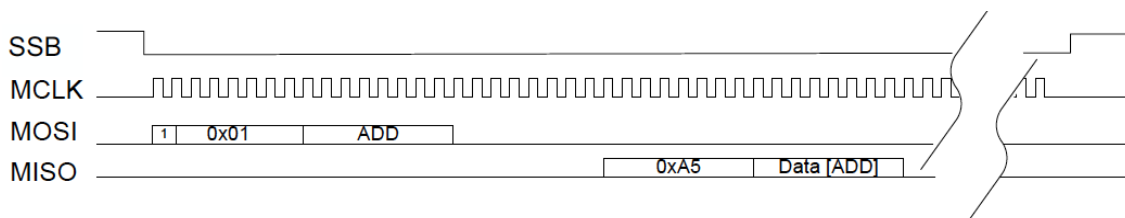
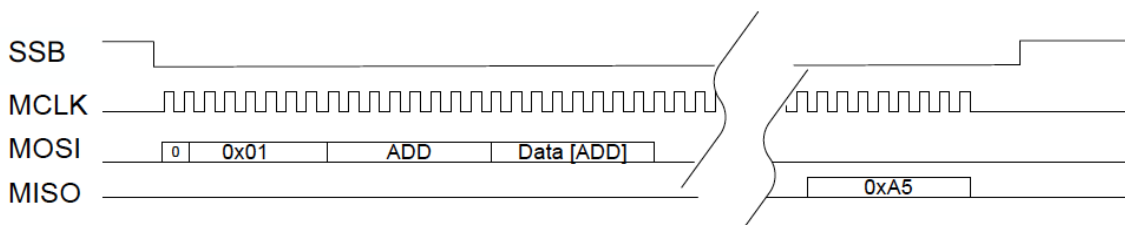

Figure 8: SPI Communication for EEPROM Read Access Timing Diagram
Figure 9: SPI Communication for EEPROM Write Access Timing Diagram
The internal 256 x 8bit EEPROM is a non-volatile memory which holds initialization and calibration data as well as gain dependent settings and the definition of internal measurement sequences. To change the address space from register to EEPROM access, the last bit of the first byte has to be set to '1'. Furthermore, the command word again includes the direction control bit 0 for read and '1' for write access. However, the read and write EEPROM access is somewhat different from the register access detailed before, since read/write operations return a special key (0xA5) via MISO (Figure 8 and Figure 9) to acknowledge the transfer and only single byte transfers per SPI frame are supported (i.e. no sequential read or write access possible).